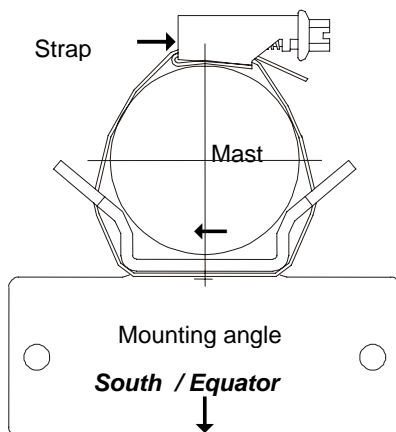

Figure 10: Strap, Mast, Mounting angle
First, the mounting angle (with or without housing) should be fastened to the mast. Because of the shading effect of the mast the angle is to be mounted at the highest possible place. Align the angle to the south acc. to Figure 10 ($\pm 10^\circ$, Northern hemisphere), and fasten it at the top of the mast. It is advisable to have a second person holding the Laser Precipitation Monitor during the mounting. In case no second person is available, it is also possible to separate the mounting angle from the Laser Precipitation Monitor (2 nuts M6 below, 2 screws above [accessible after removing the housing cover]).
3. Put the free end of the prepared clamp around the mast and the mounting angle, and screw it on (Figure 10).